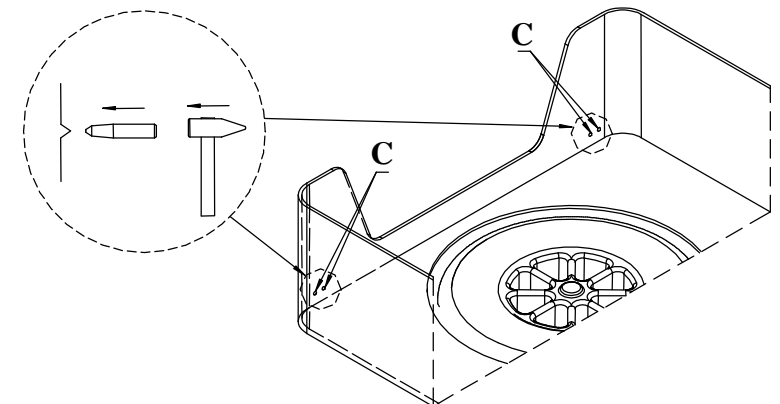

Fig. 2.
2. Place fish-plates pos. 4 and 5 on trunk's floor. Holes A and B are placed on the left and right side trunk's floor, over left and right chassis member. They are marked as dents. Find them using fish-plates 4 and 5. Then take out fish-plates and drill trunk's floor using bit  $\varnothing 17\text{mm}$  in points A and B.
4. Remove fish-plates and knock out dents (see figure 2). Resultant holes enlarge using bit  $\varnothing 12\text{mm}$ . Drill straight through rear wall of the trunk.
5. Place fish-plates pos. 4 and 5 again together with distance sleeves (pos. 6, 7 and 8) and bolts M10x110mm (pos. 14) and M10x100mm (pos. 15) as shown on the figure. **NOTE!! Sleeves have different length!** Place plates pos. 9 from outside of rear trunk's wall and fix it using bolts M10x35mm (pos. 16)
6. Place main bar of the towbar (pos. 1) together with square washer (pos. 10) and fix it through holes A and B using five nuts M10 and washers  $\varnothing 25 \times \varnothing 11 \times 3\text{mm}$  (pos.11).
7. Fix tow-ball (pos. 2) with socket plate (pos. 3) using bolts M12x75mm (pos. 12) and M12x70mm (pos. 13) from accessories.